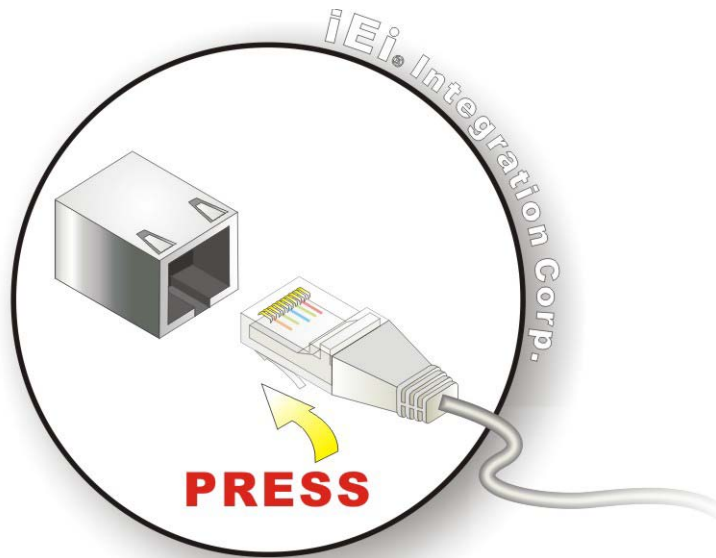

Figure 3-14: LAN Connection
- Step 2: Align the connectors.** Align the RJ-45 connector on the LAN cable with one of the RJ-45 connectors on the TANK-860-HM86 Series. See **Figure 3-14**.